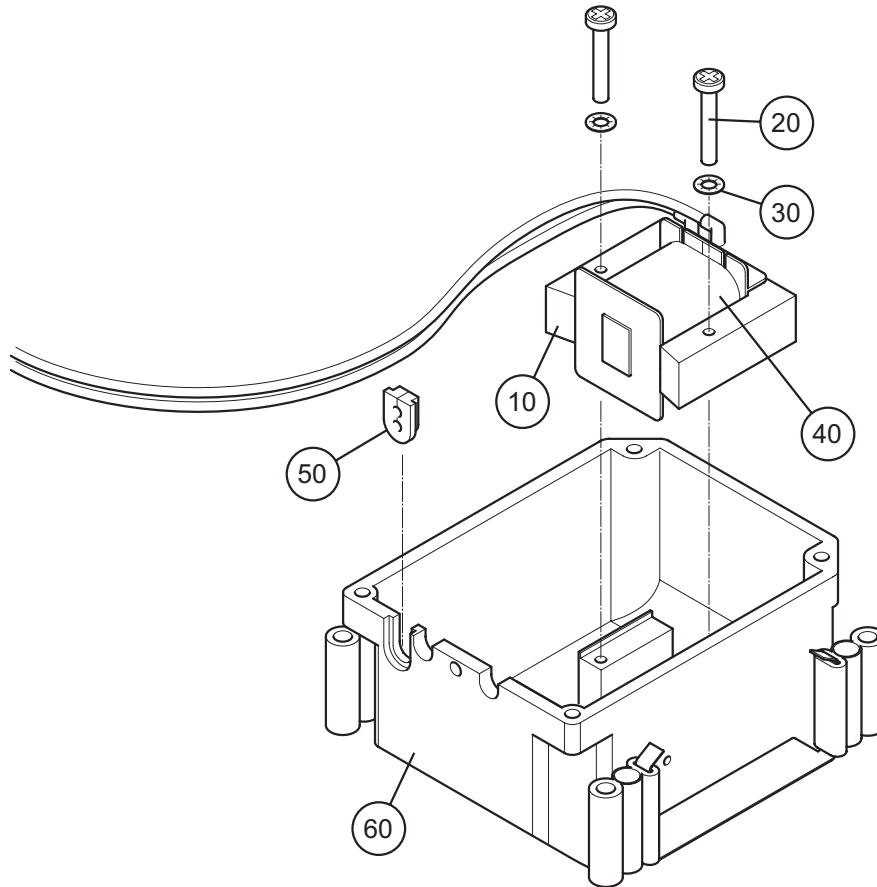

Figure 13 - 'E' Stack and Coil Assembly
Note : After doing work in either Section 26 or 27 the pressure/flow characteristics can be altered by moving the coil assembly/'E' stack nearer or further from the armature magnets. This can be done by adjusting screws (Fig 13, Item 20). Ensure the screws are tightened afterwards.
- 26.2 Unscrew and remove the two screws and anti-vibration washers (Fig 13, Items 20 and 30) which secure the 'E' stack/coil assembly (Fig 13, Items 10 and 40).
- 27.4 Feed the compressor electrical wires through the compressor case cable grommet (Fig 13, Item 50).
- 27.5 Remove the 'E' stack/coil assembly from the compressor case (Fig 13, Item 60) and carefully separate the coil from the 'E' stack.